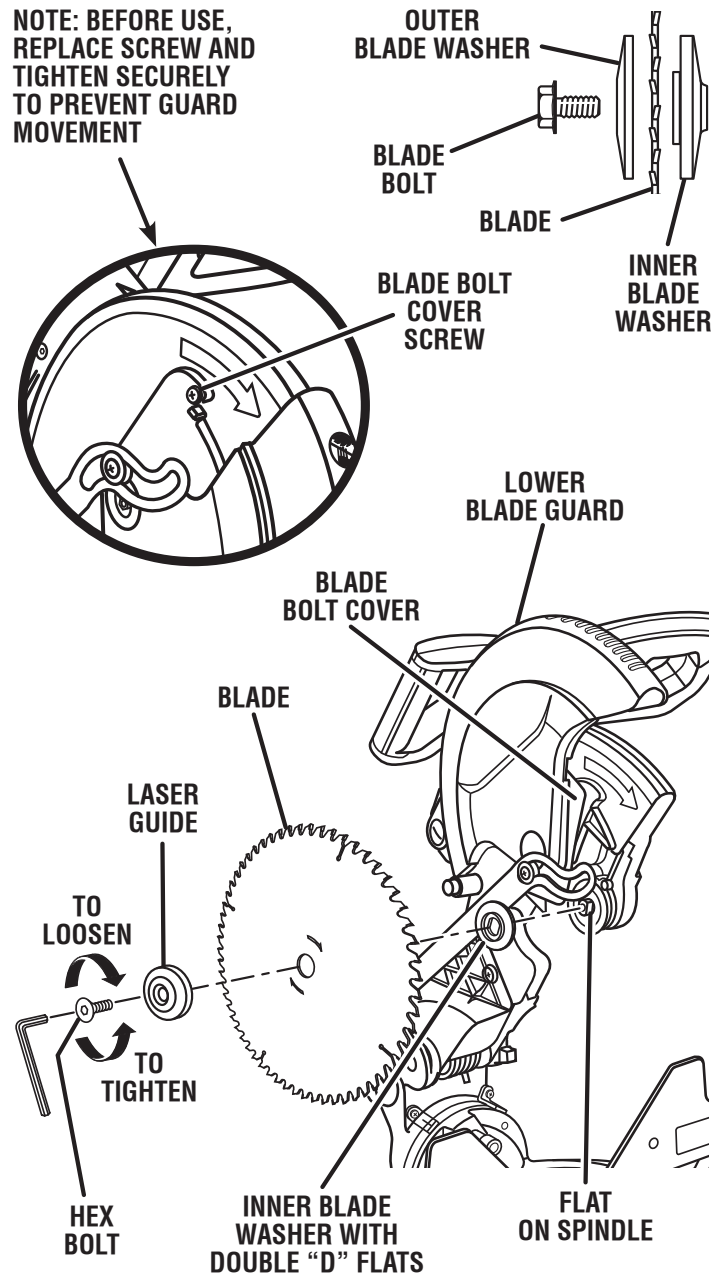

Fig. 12
See Figure 12.
- Fit saw blade inside lower blade guard and onto spindle. The blade teeth point downward at the front of saw as shown in figure 12.